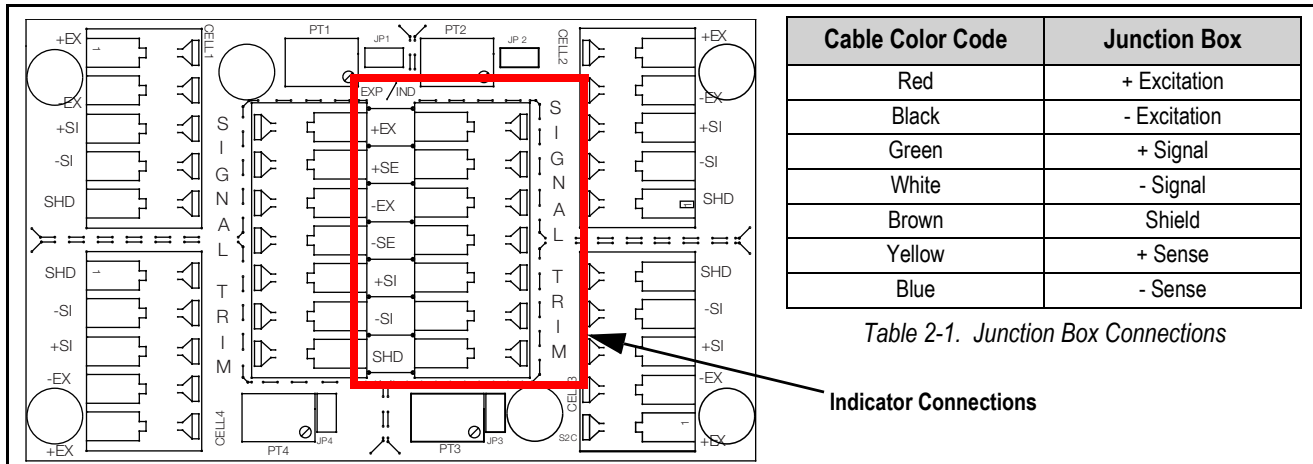
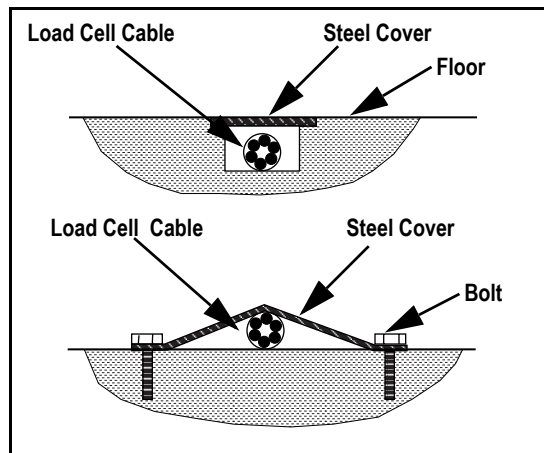

Figure 2-6. Junction Box Terminal Blocks with Indicator Connectors Identified
Figure 2-7. Interface Cable Protection
The junction box terminal block (Figure 2-6 on page 7) is used to connect four load cells and the main cable to the indicator. Each scale kit includes 20 ft (6.1 m) of 6-wire cable to connect the junction box to an indicator. The interface cable between the scale and the indicator must be protected against crushing, cutting or moisture damage (Figure 2-7 on page 7). Perform the following to complete junction box connections:
6. Connect the wires to the required terminals as indicated in Figure 2-6.